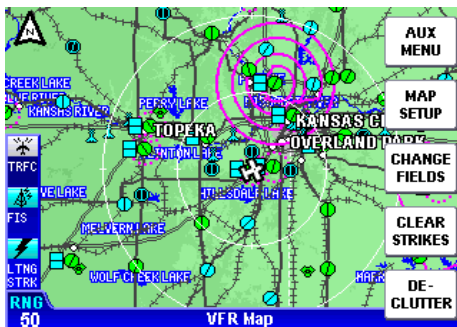

Figure 1-162
1. Press the **MENU** Key to display Figure 1-162. Press the **MAP SETUP** Softkey to display Figure 1-163. Use the Joystick to select the desired field and turn the Rotary Knob to make the desired changes.